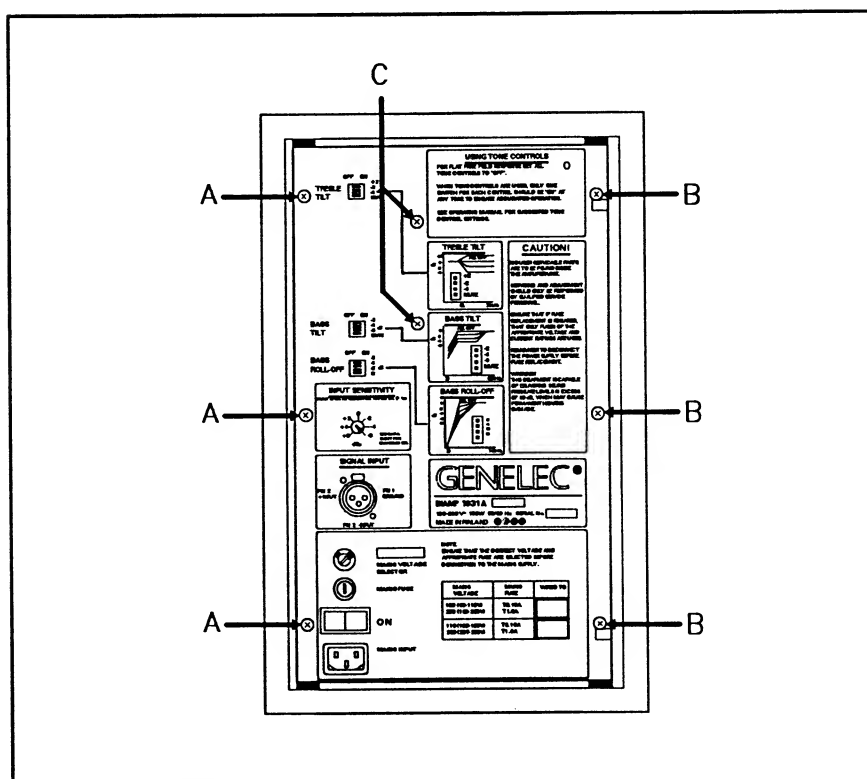

Figure 4.1 Location of rear panel fixing screws
- Release the three screws marked 'A' in figure 4.1.
- Loosen the three screws marked 'B' in figure 4.1. and remove only the center one completely.
- Release the two screws marked 'C' in figure 4.1.